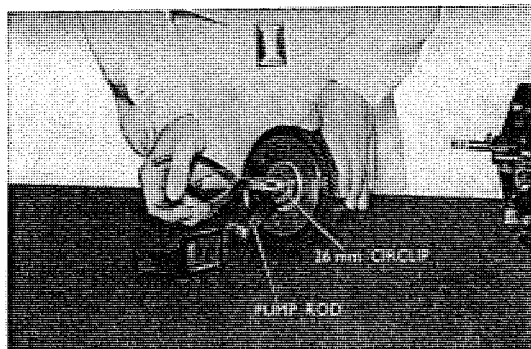

Fig. 3.69 Removing pump rod
5. By removing the 26 mm retainer, remove the pump rod coupled in the outer clutch. (Refer to Fig. 3.69)